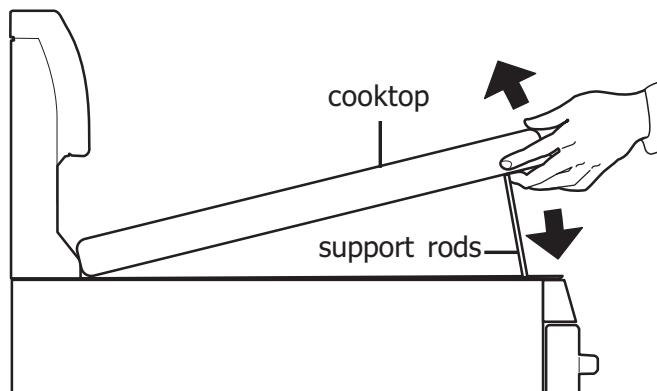

Figure 5: Lifting cooktop
1. Grasp the sides and lift from the front (See Figure 5). Lift-up rods will support the top in a raised position. Only lift the cook top far enough to allow the support rods to snap into place.